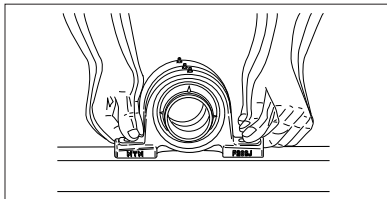

Fig.8.1
- 2) Bearing housing mounting face must be as flat and smooth as possible (when placing the bearing housing on the frame, the housing must be stably seated without any excessive play) (Fig.8.1).